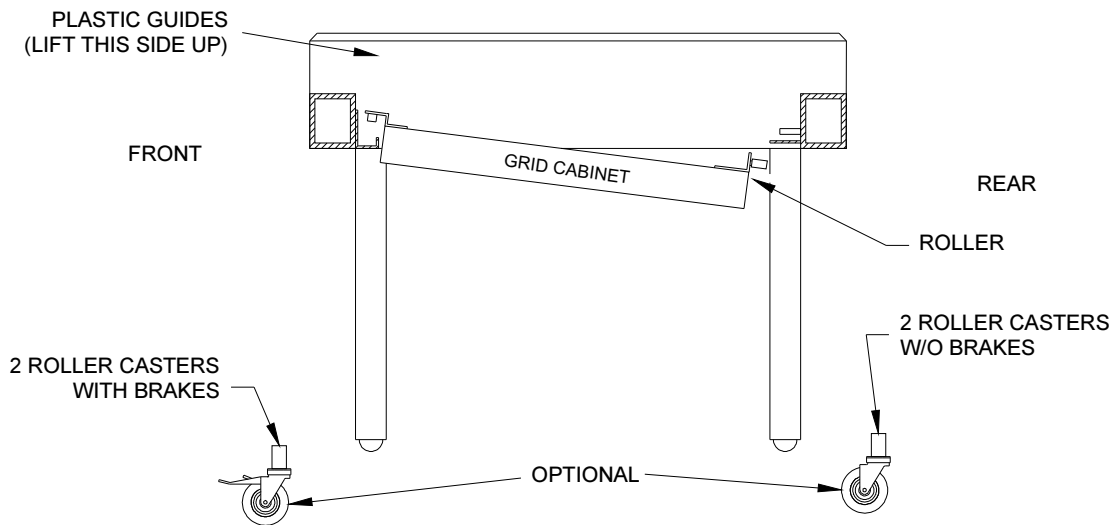

FIG. 3
- E) Slide G.C. cautiously to your right until the roller drops down from the rail (see figure 3).